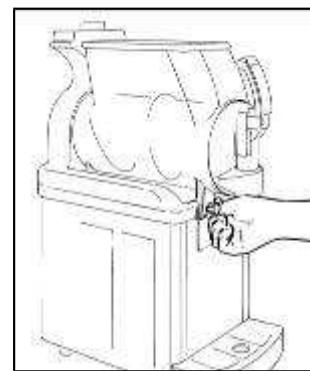

Рис. 39
- Fix the bowl by reinsert the knobs (Рис.39).